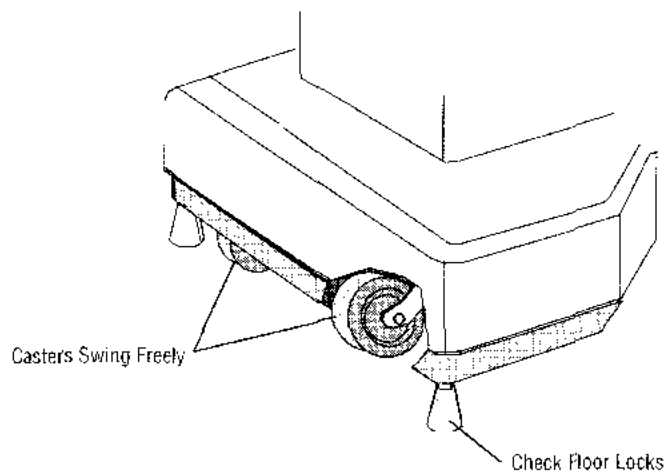

Figure 3-4. Check Floor Locks
5. Check floor locks to make sure each is snug against floor (see Figure 3-4).